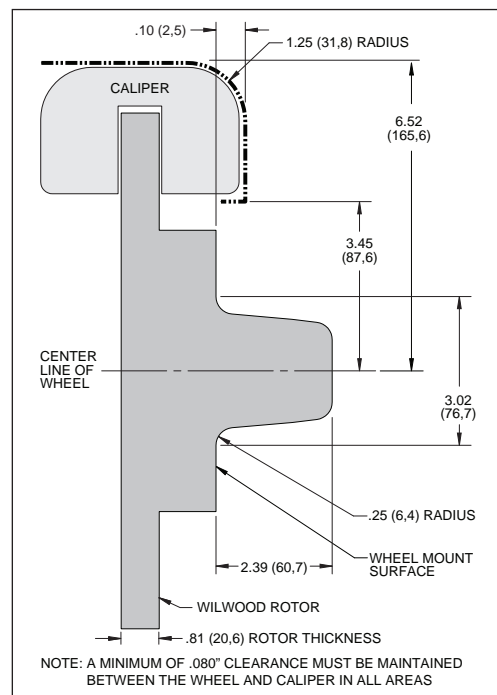

Figure 3. Wheel Clearance Diagram
- Review the Wheel Clearance Diagram (Figure 3, page 4) to verify that there is adequate clearance with the wheels you will be using with the installation.
- Verify wheel clearance using Figure 3.
- WARNING:** *The wheel contact surfaces must seat completely on the face of the hub.* If any contact surfaces overhang the outside diameter of the hub face, a 6.60" diameter x .20" thick steel spacer (item 24, Wilwood P/N 300-11961) **MUST** be used between the wheel and the hub.